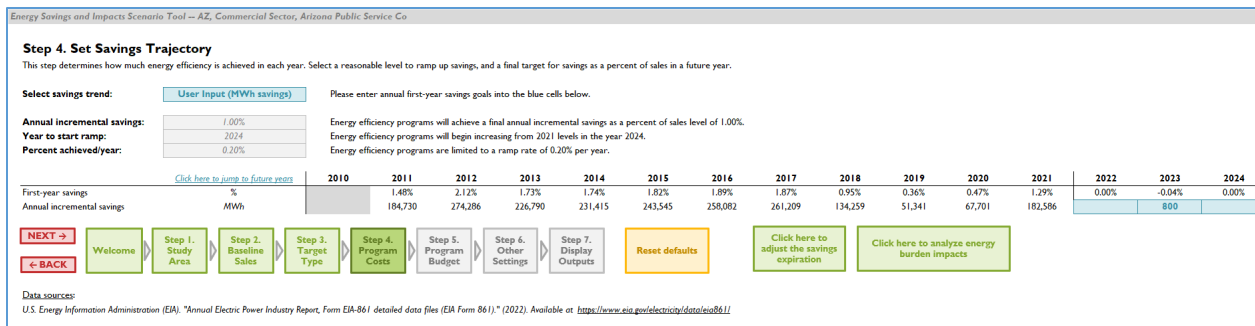

Figure 3. “Set Savings Trajectory” page in the ESIST tool, with 800 MWh of savings entered for year 2023
- 1) In the blue box labeled “Select savings trend” choose “User Input (MWh savings) from the dropdown list (see **Figure 3**, below).
- 3) In the blue box under that year, enter the number of **MWh** of annual estimated **electricity savings**. See the example in **Figure 3**, below, in which we entered 800 (for 800 MWh) in the box under the year 2023.
- 4) Overwrite the values the rest of the blue boxes on that row by typing the number 0 in those boxes – *including any years prior to your project’s first performance year* (see **Figure 3**, where information for 2022 was deleted). Only the one box under the first year of your project’s performance period should have your annual estimated electricity savings figure.
- 1) In the blue box labeled “Select savings trend” choose “User Input (MWh savings)” from the dropdown list (see **Figure 3**, below).
- 3) In the blue box under that year, enter the number of **MWh** of annual estimated **natural gas savings**. See the example in **Figure 3**, below, in which we entered 800 (for 800 MWh) in the box under the year 2023.
- 4) Overwrite the values the rest of the blue boxes on that row by typing the number 0 in those boxes – *including any years prior to your project’s first performance year* (see **Figure 3**, where the default values for 2011 through 2022 and numbers from 2024 through 2040 were replaced with the number 0). Only the one box under the first year of your project’s performance period should have your annual estimated annual natural gas savings figure.